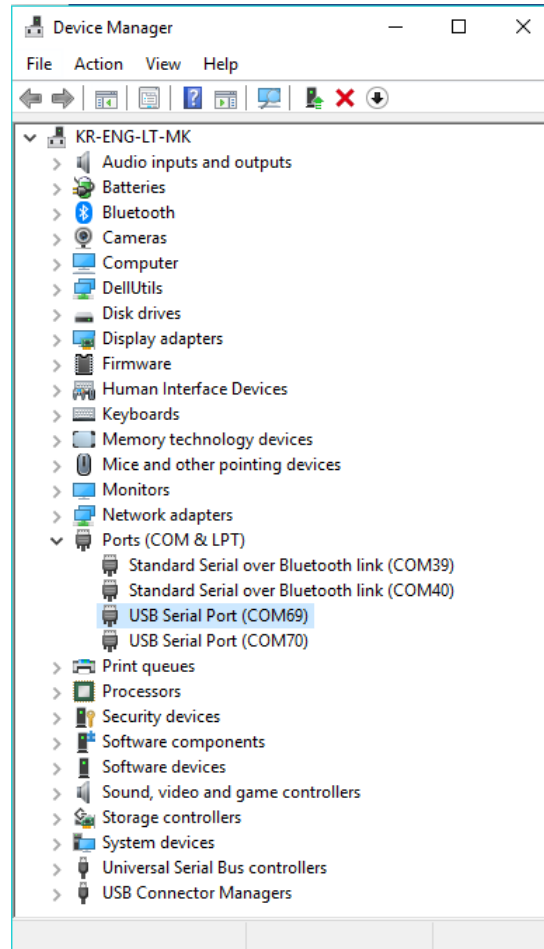

Figure 32: Check COM ports on device manager
There are two virtual COM ports created by the Windows driver. The first COM port (lower number, COM69 in Figure 32) provides a UART interface for debugging or firmware download between the PC and the DA161200. The second (higher number, COM70 in Figure 32) is used for AT command.
2. Make sure that the PC discovered the two serial ports in Windows Device Manager as shown in Figure 32. The higher COM port number is connected to UART1.